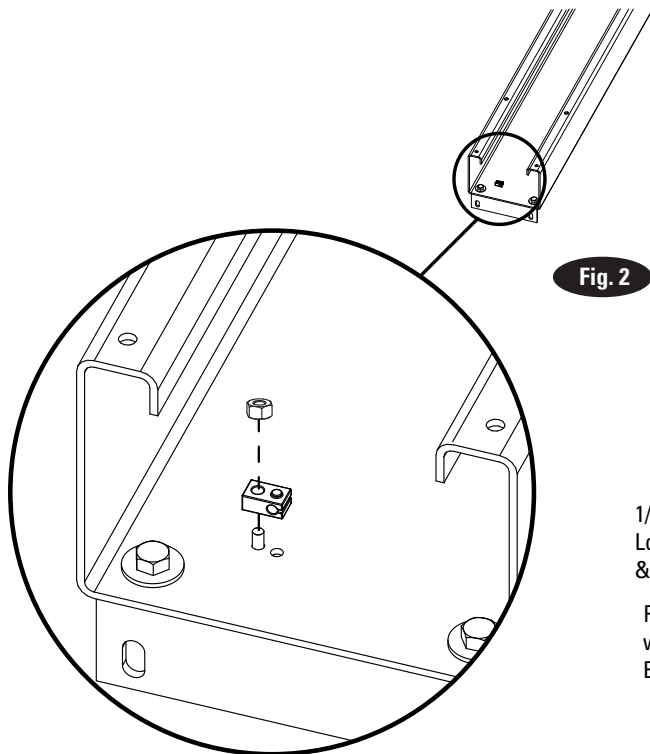

Fig. 2
**2. Latch Cable Guides:** Install the latch cable conduit guide brackets to column using (1) 1/4"-20NC x 1" HHCS and 1/4"-20NC Flanged Locknut. It should go through hole nearest the edge as shown, Fig. 2. For extension please note paragraph 4.